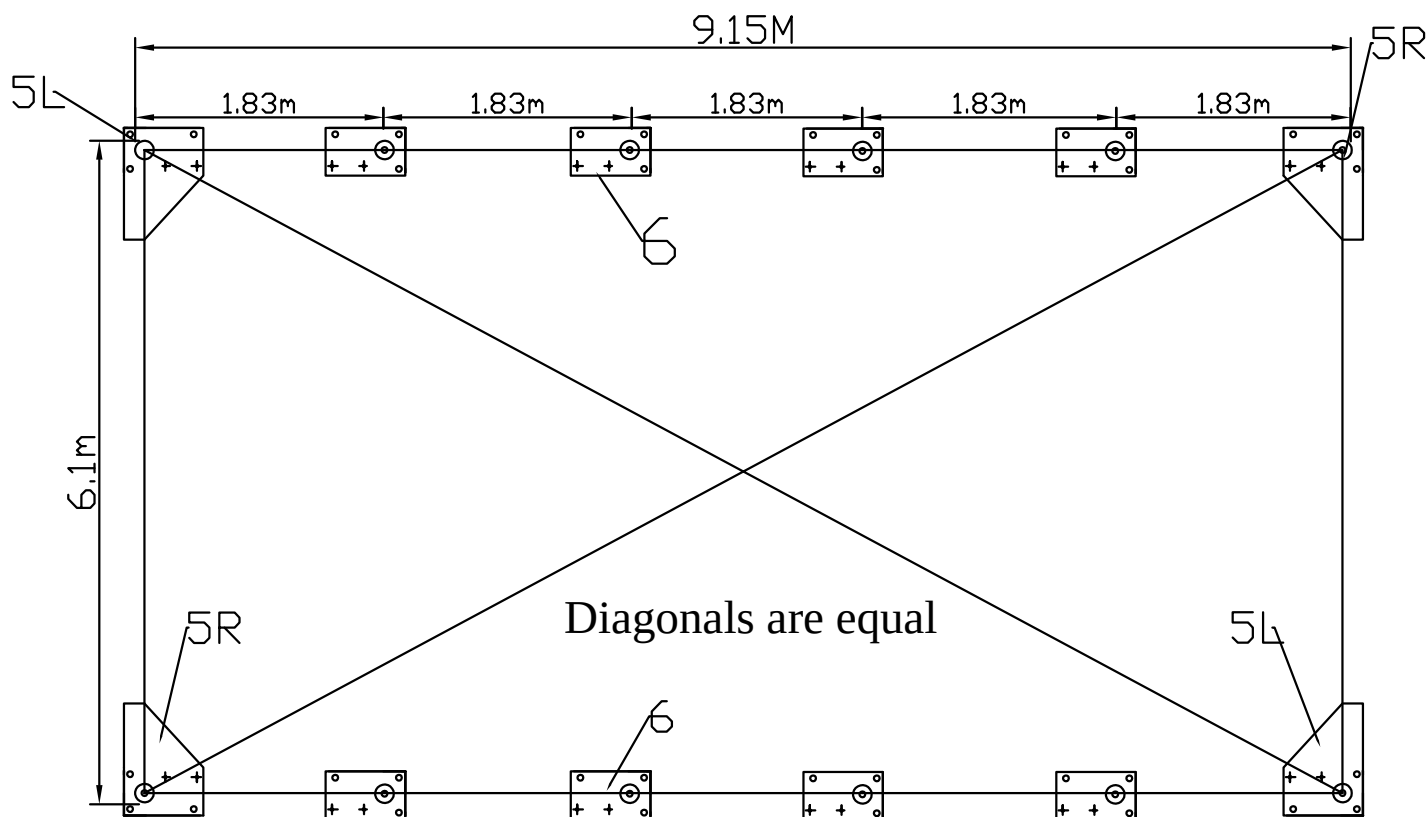

Figure 2 Position of Base Flanges
Begin by determining exact location of the four (4) corners of the building. Mark front edge and side-to-side width of assembly on ground. Drive alignment stakes into the ground outside of the markings, and draw alignment strings along both ends and sides of the building to the dimensions shown in Figure 2. The outline of the strings will represent the final location of the base flanges. The initial location of each Corner Base Flanges (5R & 5L) is critical to the alignment and fit of the frame components and cover.
Locate the Left Corner Base Flange and Right Corner Base Flange(5R&5L). Secure the base flanges with Stake Pegs (Part #13). Measurements shown in Figure 2 are to the center of the upright sockets on each Base Flange. The Shelter must be secured to a firm surface that can receive and retain augers and pegs firmly in position. The shelter should be installed on FIRM GROUND, not on SWAMP, SOFT/WET GROUND. The Base Flanges must be secured so they cannot be moved. Arches are tensioned at their base as they insert into the Base Plate sockets.